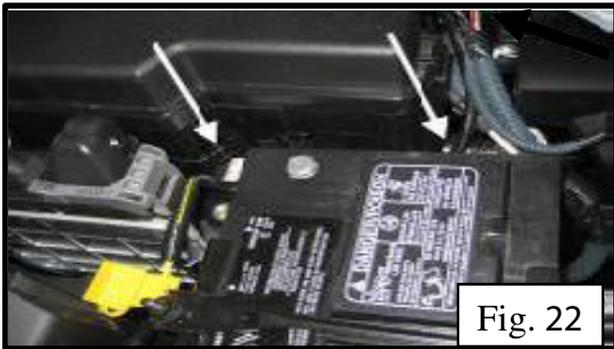

Fig. 22
7. Route the harness along the battery over to the driver's side fender (white arrows). Using 2 cable ties, secure the harness to the existing vehicle harnesses spaced out approximately 150mm (6 inches). This is done inside the engine bay (Fig.22).